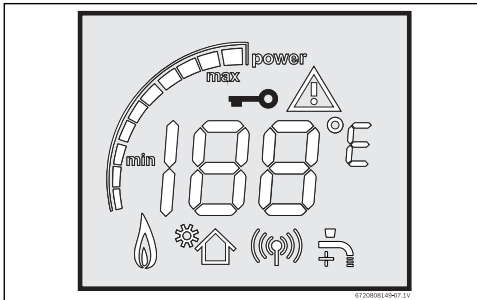

Fig. 7 Key symbol
2. The key symbol must appear on the display (Fig. 7). This mode allows appliance power selection.